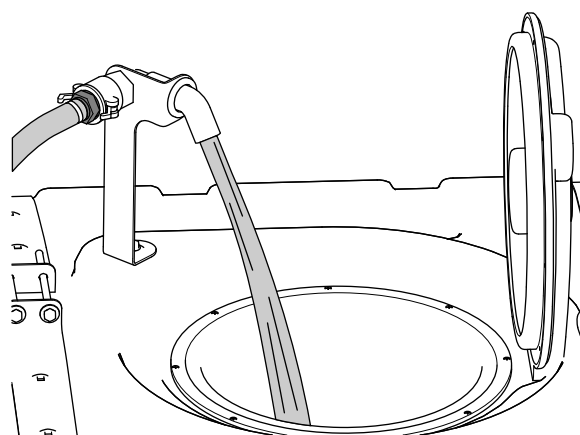

Figure 24
5. Add 3/4 of the required water to the spray tank (Figure 24).